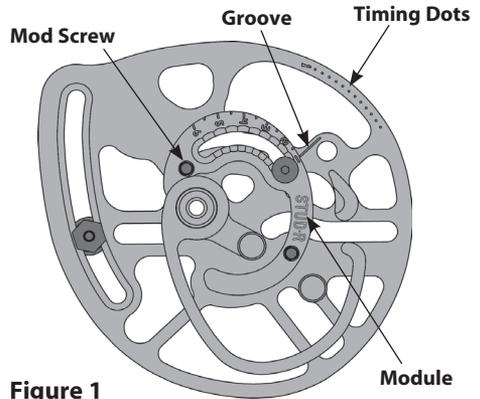

Figure 1
1. Using an Allen wrench, remove the "Module screws" that attach the module to the cam (See Figure 1). Note: Depending on your draw length, you may need to press the bow to be able to access all screws for removal.